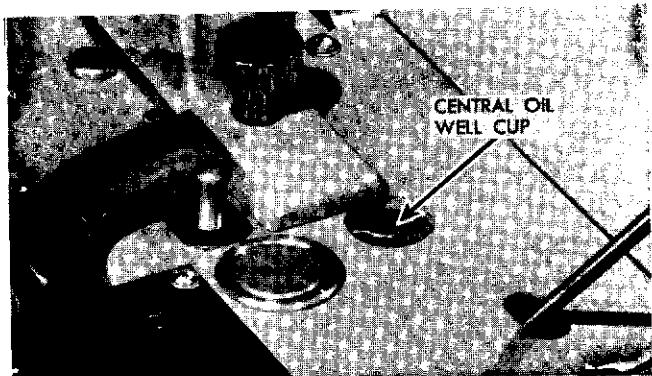

Figure 3-1. Central Oil Well Cup –
3-3. LUBRICATION OF INTERNAL PARTS. Internal lubrication for the AQ-2A(1) projectors is supplied through a one-point feed lubrication system. Oil is applied to the central oil well cup (figure 3-1) on top of the projector case and is fed through oil tubing to all internal mechanism bearings and to the intermittent mechanism reservoir. On AQ-2A(3) projectors, the oil well cup and tubing have been eliminated. A felt pad